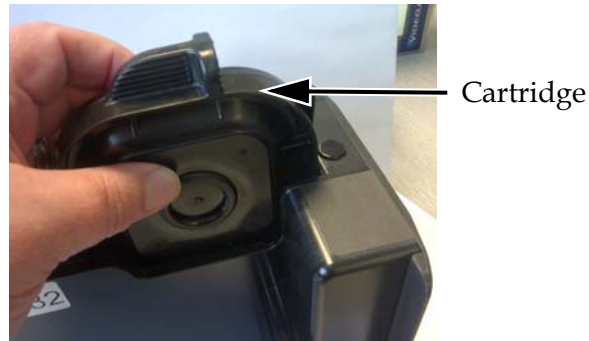

Figure 5-4: Inserting Cartridge into Printhead
- 8 Place the cartridge into the printhead (see Figure 5-4).